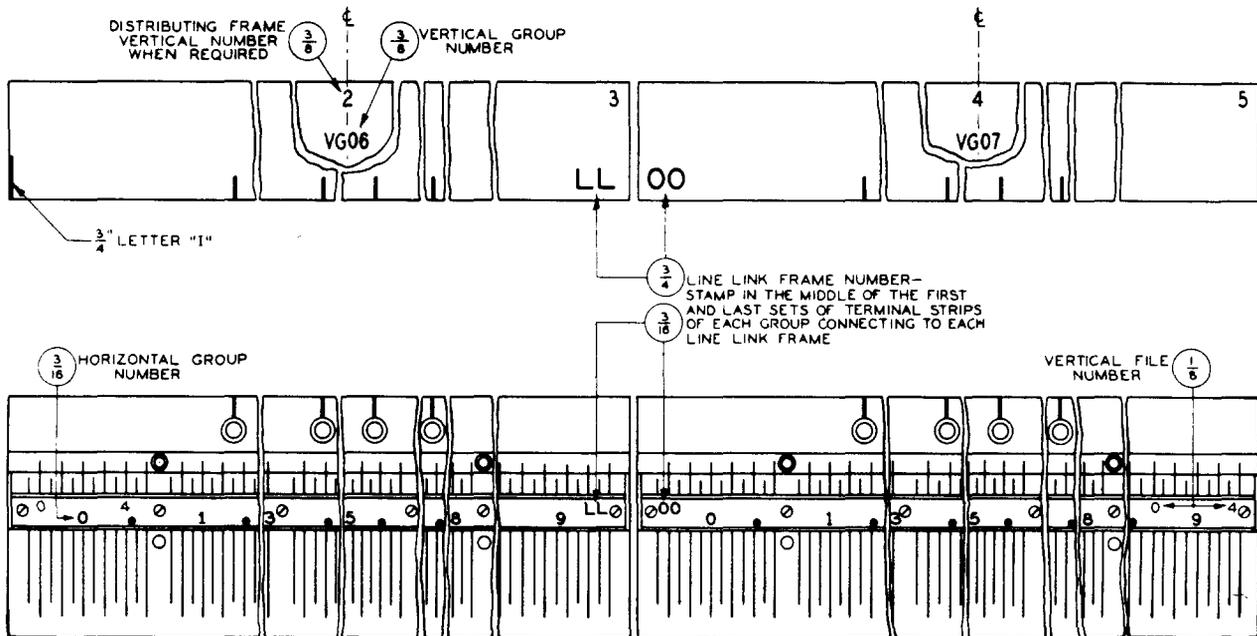

Fig. 14 - Terminal Strips - 182 and Similar Types - Subscriber Lines, Tip and Ring Leads - No. 5 Crossbar MDF
(1) **The terminal strips carrying the tip and ring leads** for each line link frame are arranged on successive shelves with each shelf carrying leads for all vertical groups of each line link frame. On these terminal strips, stamp the line link frame number in the middle of the first and last sets of terminal strips of each group connecting to each line link frame and stamp a group separation stripe for each group. (See Fig. 14, 15, and 16.)